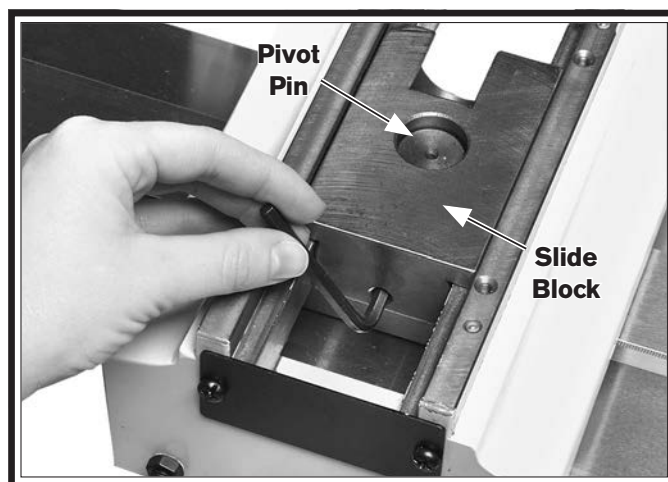

Figure 8. Slide block removal.
9. Loosen the set screw that secures the slide block to the pivot pin, as shown in **Figure 8**.